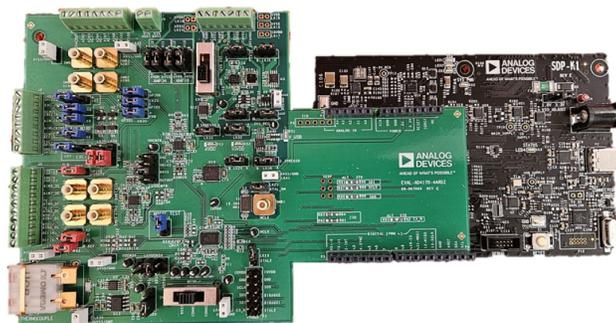

Figure 2. Hardware Configuration, Setting Up the EVAL-AD4170-4ARDZ Evaluation Board
3. Connect the EVAL-SDP-CK1Z board to the EVAL-AD4170-4ARDZ board using the Arduino connector (see Figure 2 right image).